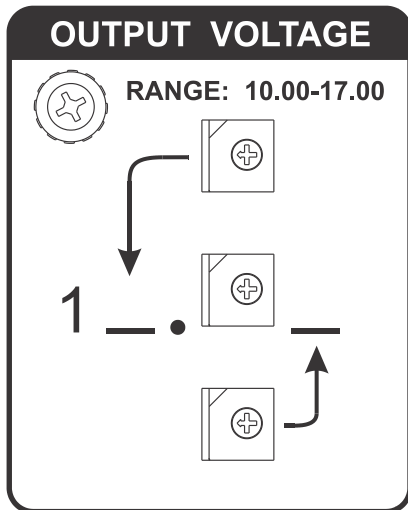

Figure 8.1
The battery charger is adjustable with the three rotary switches on the front of the charger. The switches (settable between 10.00 and 17.00) determine the float voltage for the batteries. **SET THE FLOAT VOLTAGE TO THE BATTERY MANUFACTURER'S SPECIFIED VOLTAGE FOR 77°F.** The charger will then electronically charge the batteries to the voltage specified on the switches. To set the switches, use a small screwdriver and turn the switch so that the arrowhead on the slot is pointing to the desired number. Set the switches in the following manner: If the desired battery voltage is 13.38 volts, set the top switch to 3, the middle switch to 3, and the bottom switch to 8 (see the Figure 8.1). This will provide you with the proper charging voltage. The tens digit is always a one (1) and cannot be changed. **BE SURE EACH SWITCH IS SET ON A NUMBER AND NOT BETWEEN NUMBERS.** If a switch is set between numbers, the